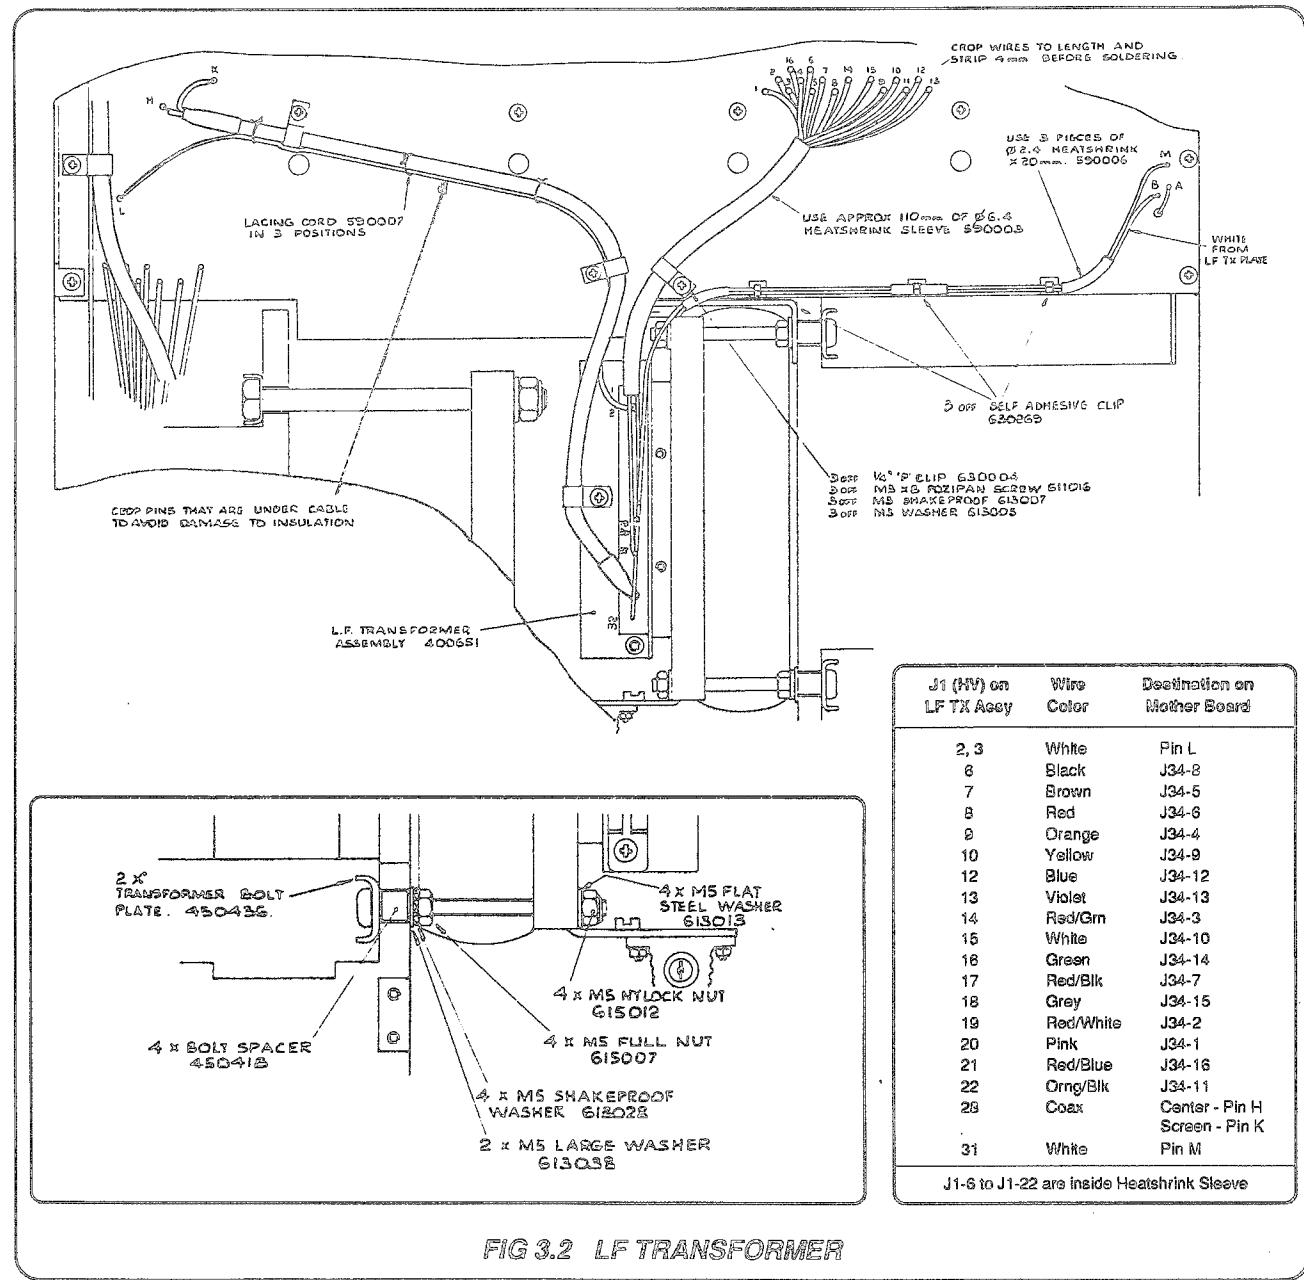

FIG 3.2 LF TRANSFORMER
- Disconnect connector J4 from the Power Amplifier and J3 from the High Voltage Assembly (see Fig. 3.2).
Reverse the removal procedure. Refer to Fig. 3.2 and page 11.18-2 detail 10.